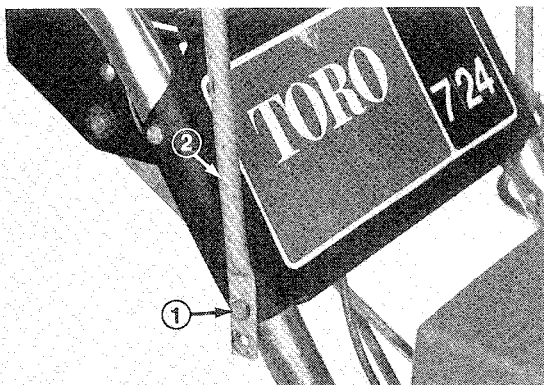
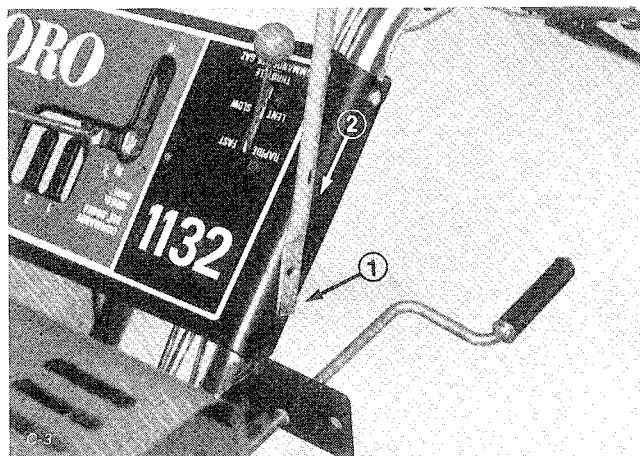

Figure 4
Figure 5
Note: When mounting snow cab on 524, 724 or 824 snowthrowers, use upper mounting hole on attaching bracket (Fig. 4). On 826 and 1132 snowthrowers use lower mounting hole (Fig. 5).
2. Position front of frame assembly (attaching brackets) to handles and secure in place with (1/4-20 x 2.00") capscrews, and nuts provided (Fig. 4 & 5).